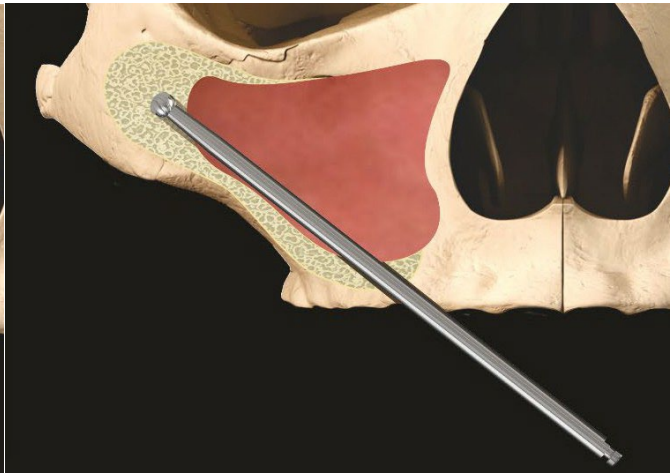

Figure 6
3. The entrance point on the alveolus is made using a round burr (D-ZYG-RB)* or a needle drill (026.0054) and continued through the wall of the maxillary sinus to the cavity seen through the sinus window (Figure 6) (D-ZYG-RB recommended drill speed: 1000-1500 rpm; 026.0054 maximum drill speed: 800 rpm).